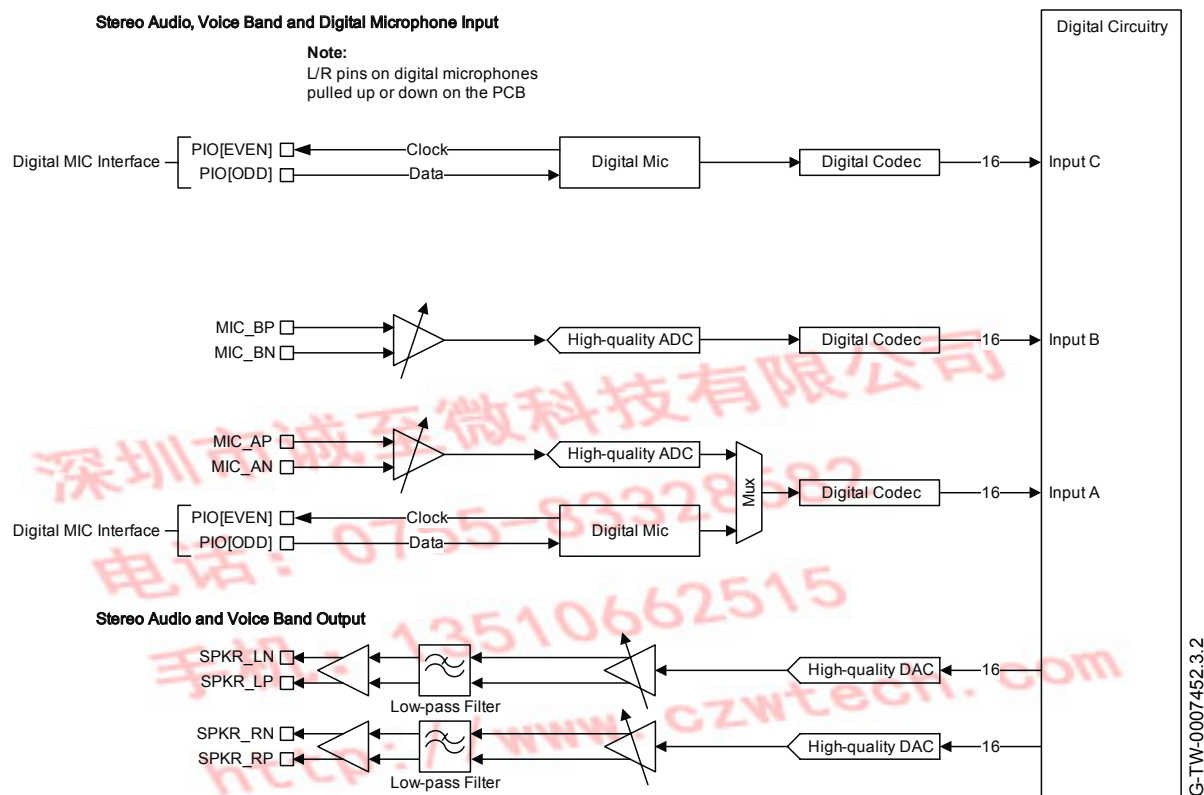

Figure 9.2: Audio Codec Input and Output Stages
- Multiplexed with 1 of the digital microphone inputs, see Figure 9.2 and Section 9.2.14
Figure 9.2 shows the CSR8645 BGA consists of 2 high-quality ADCs:
- 2 fourth-order Sigma-Delta converters enabling 2 separate channels that are identical in functionality, as Figure 9.2 shows.